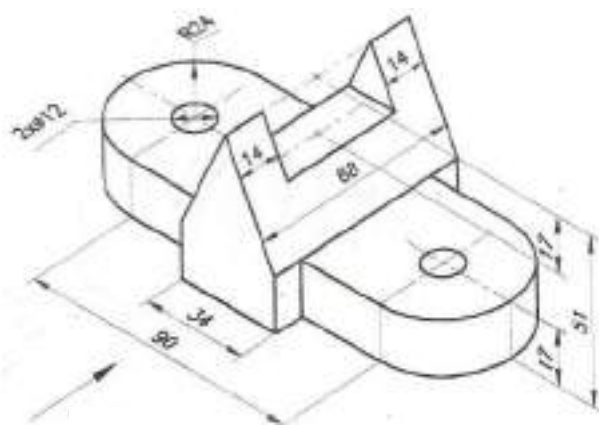

Fig: 3
10. The pictorial view of the machine component is given in Fig: 3. Draw the front view and right hand side view.